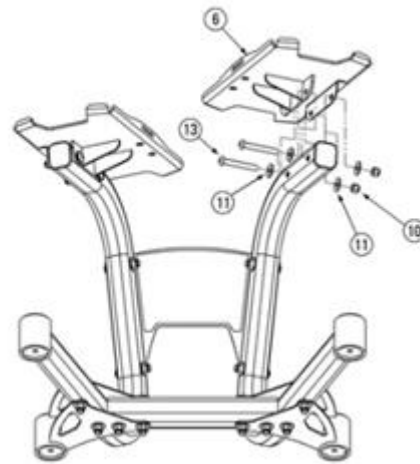

Fig. 6
Secure the right dumbbell platform (6) to right stand leg (4) using the hardware shown in figure 6.